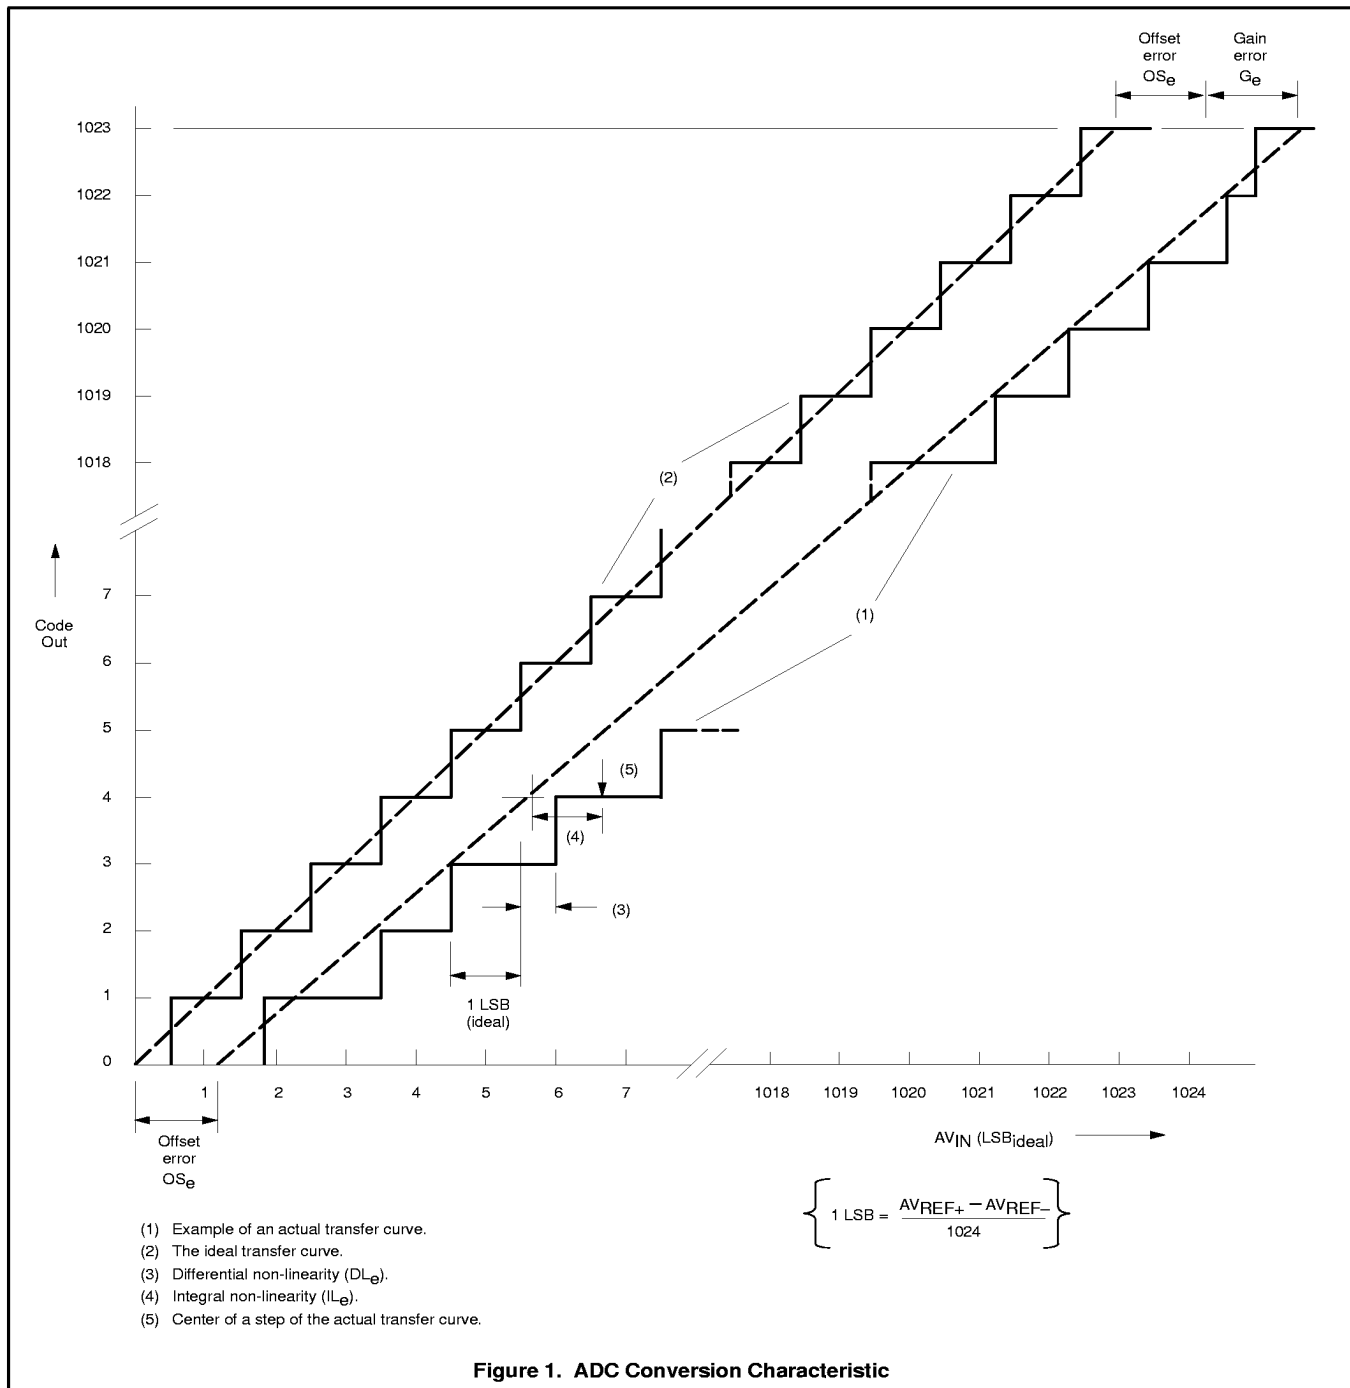

Figure 1. ADC Conversion Characteristic
- The differential non-linearity (DLe) is the difference between the actual step width and the ideal step width. (See Figure 1.)
13. The integral non-linearity ( $IL_e$ ) is the peak difference between the center of the steps of the actual and the ideal transfer curve after appropriate adjustment of gain and offset error. (See Figure 1.)
14. The offset error ( $OS_e$ ) is the absolute difference between the straight line which fits the actual transfer curve (after removing gain error), and a straight line which fits the ideal transfer curve. (See Figure 1.)
15. The gain error ( $G_e$ ) is the relative difference in percent between the straight line fitting the actual transfer curve (after removing offset error), and the straight line which fits the ideal transfer curve. (See Figure 1.)